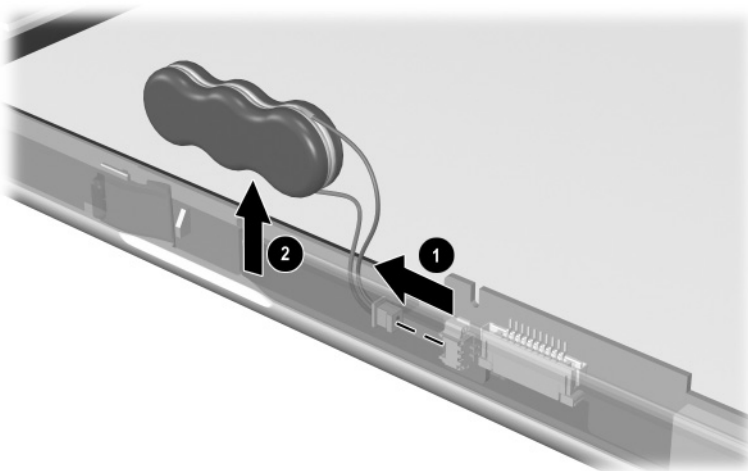

Figure 5-16. Removing the Bridge Battery
23. Disconnect the bridge battery cable ❶ from the panel inverter board (Figure 5-16).
24. Remove the bridge battery ❷ from the panel bezel.